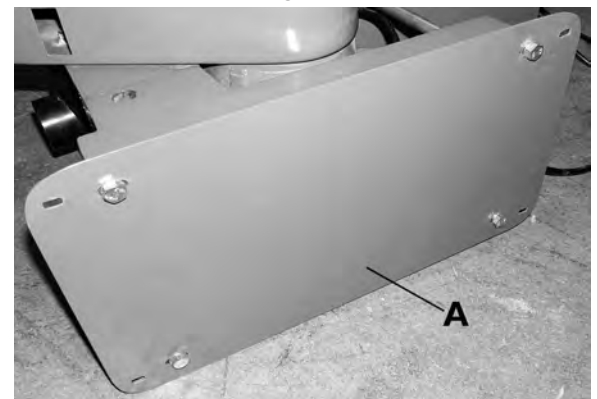

Figure 7
Position the sander assembly on its side and mount the top plate (A) Fig.7 to the underside of the sander base using 4 hex. bolts and 4 washers.